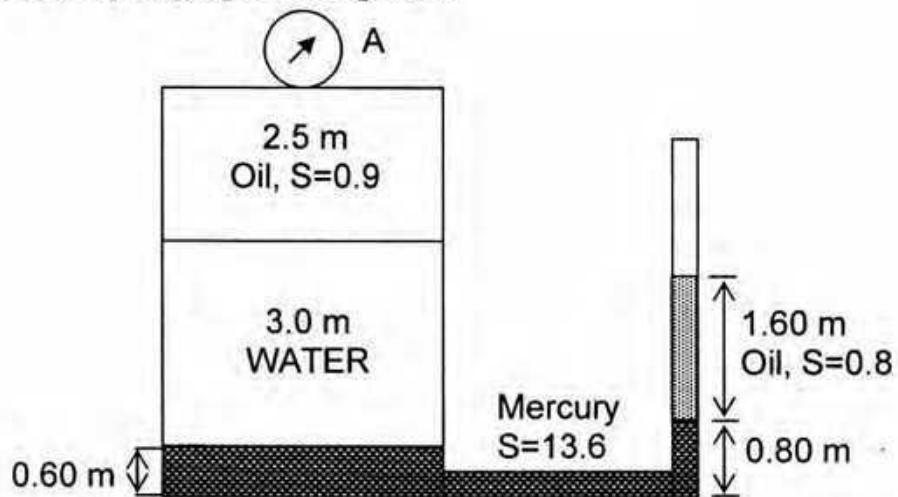

Figure 3
e. Determine the reading of gauge A in Figure 3. 6